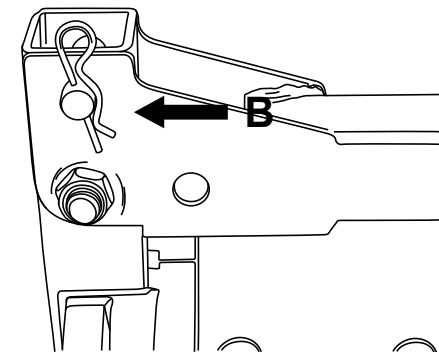

Fig. 5
- Rotate the hitch connector up and place the Straight Pin through hole B (**Fig 5**) and insert the Hairpin Cotter Pin/Locking Clip through the hole at the other end of the Straight Pin making sure that it fully clips in place. Having the Hitch Insert in the upright position will allow for a more compact profile making it easier to store and easier to mount onto the hitch of the vehicle.